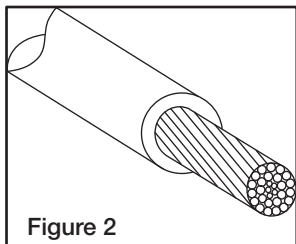

Figure 2
2. Strip cable insulation avoiding damage to the conductor's strands (Figure 2).